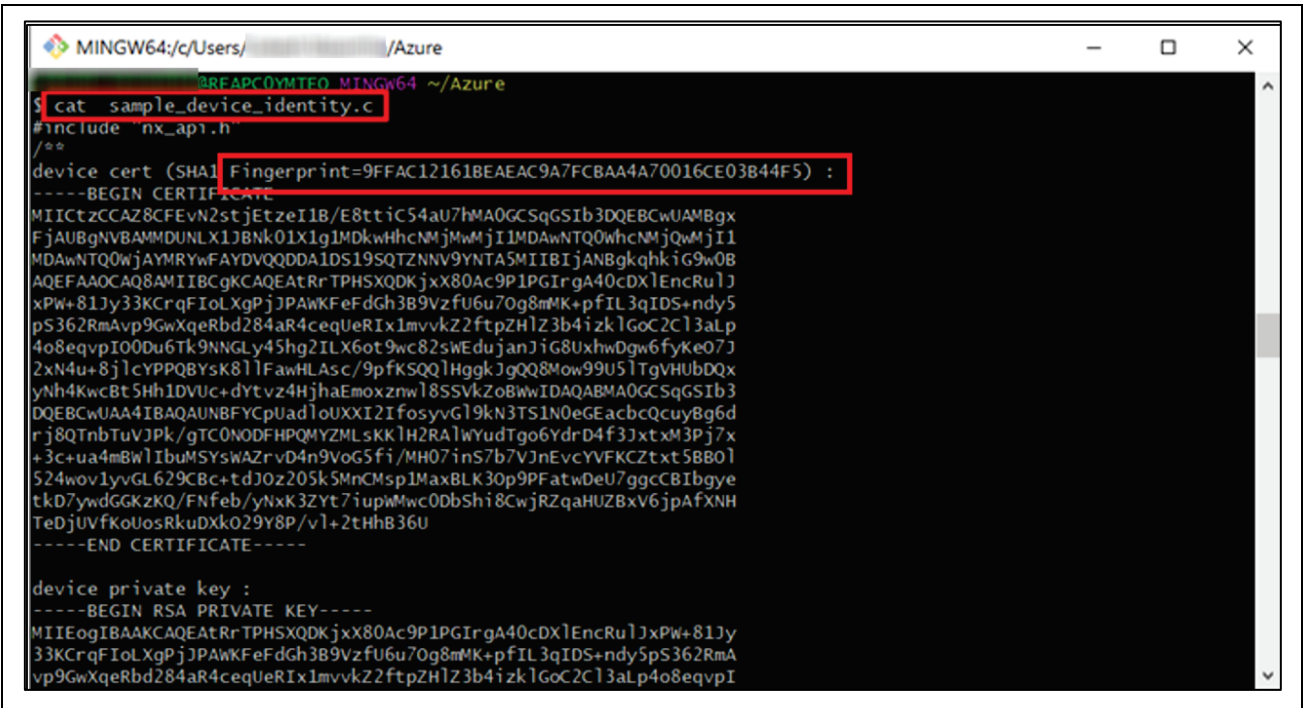

Figure 23. Check the Content of `sample_device_identity.c`
2. In this stage, you have to give Device ID, Authentication type, Primary thumbprint, Secondary thumbprint then click on Create. Use fingerprint generated in Figure 23 in section 3.5.Certificate Creation Process, for the primary and secondary thumbprints. Follow steps 1-5 in Figure 31, to create the device.